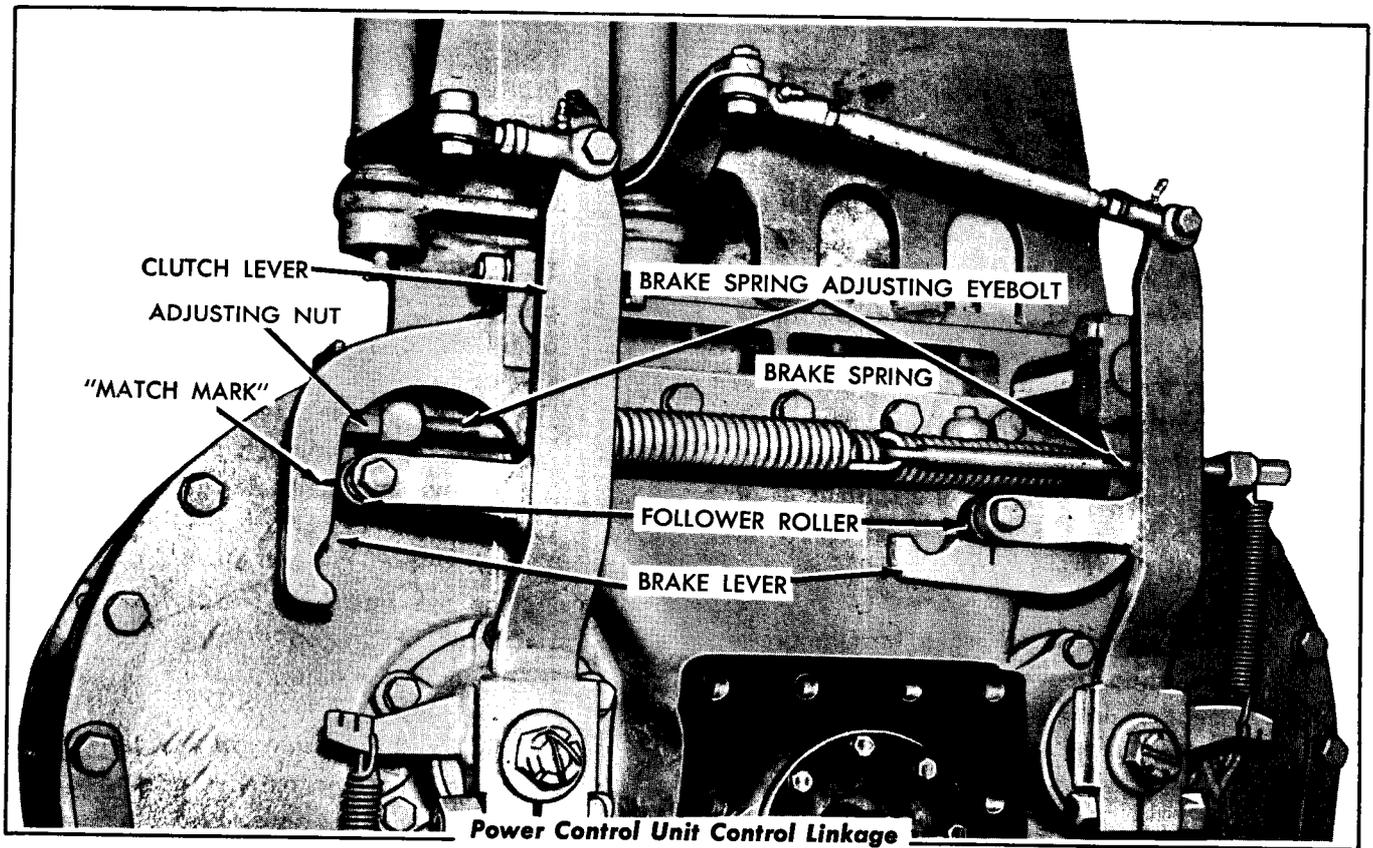
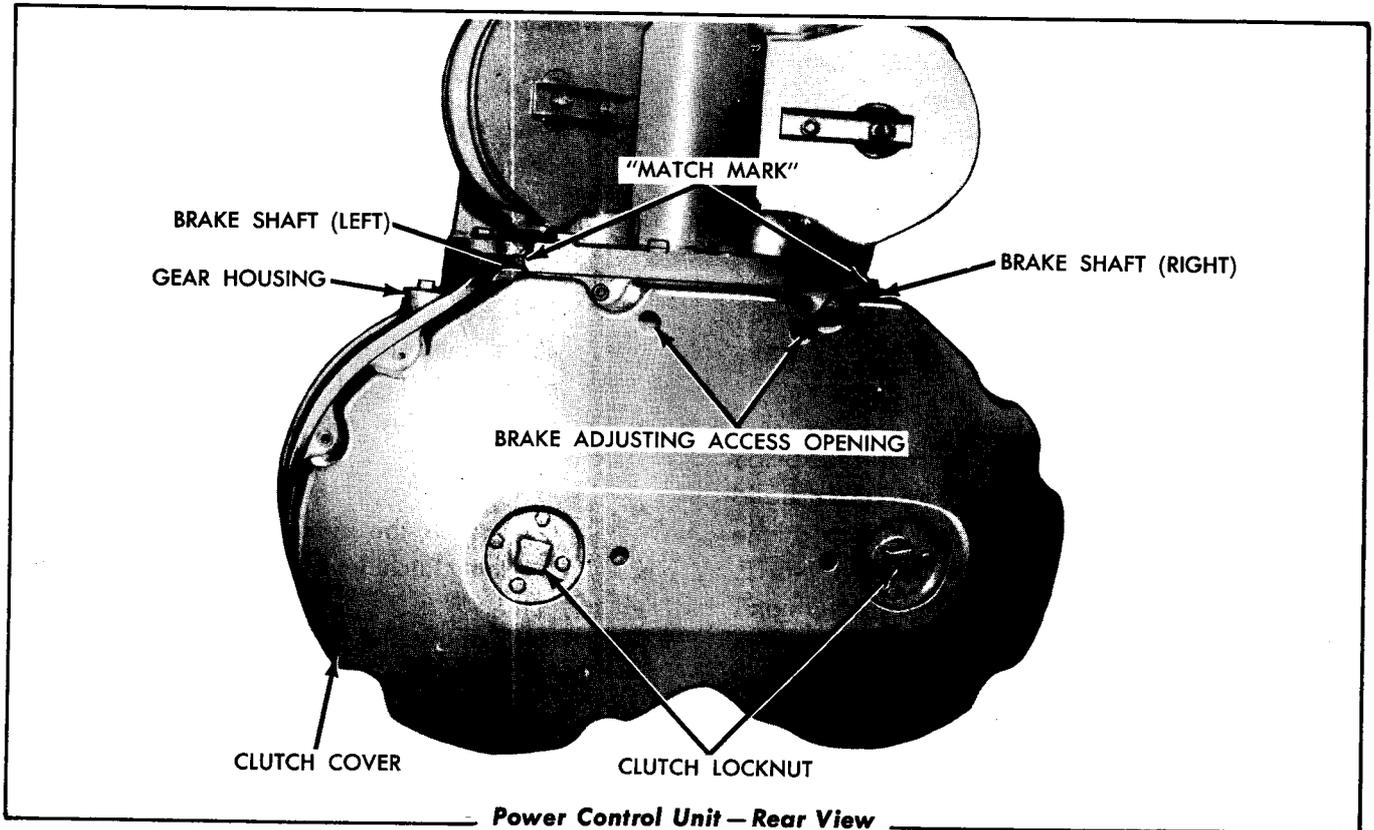

FIG. 5
FIG. 6
Each clutch and brake assembly of the unit is operated by its own control lever system. Moving the operating control lever toward the operator rotates the clutch control shaft in the direction to engage the clutch. Moving the operating control lever away from the operator actuates the brake release by means of a follower roller (Fig. 5) which contacts the cam surface on the edge of the brake lever. **CAUTION:** *When the operating control lever is in its extreme position (away from the operator) it is in its full release position and permits the cable drum to turn freely.*
A "match mark" (Fig. 5), stamped on each brake
lever at the factory, is provided for locating the proper neutral point of contact between the follower roller and the brake lever. A corresponding "match mark" (Fig. 6) is provided on the gear housing, just above the pointer of each brake shaft to which the brake band links are attached.
As the brake band lining wears, the follower roller contact point moves away from its "match mark" (Fig. 5), changing the free movement of the clutch engagement. **NOTE:** *Excessive free movement is noticeable through the operating control levers as extended travel; therefore, it is necessary to check the brake adjustment BEFORE adjusting the clutch.*
- a. To adjust the brake, insert the end of a screwdriver through the brake adjusting access opening (Fig. 6) in the upper rear of the clutch cover and engage it with the slotted flange on the brake adjusting sleeve (Fig. 7). With the access opening as a pry base, turn the adjusting sleeve as follows:
- b. When the pointer of the brake shaft is in line with its "match mark" (Fig. 6) on the gear housing, the follower rollers will also be in line with their corresponding "match mark" (Fig. 5) on the brake lever.
- d. The brake springs (Fig. 5) are adjusted at the factory for average service. For severe service, it may be necessary to increase the
tension by tightening the adjusting nuts (Fig. 5) located on the brake spring adjusting eye bolts. CAUTION: DO NOT TIGHTEN THE SPRINGS MORE THAN IS NECESSARY TO HOLD THE LOAD WITHOUT SLIPPING.
(3) When the proper position is obtained, install the cotter pin and tighten the clamp bolt securely.
(4) Check and readjust the brake if necessary.
c. Loosen (DO NOT REMOVE) the four cap-screws attaching the clutch lock nut (Fig. 6) to the clutch adjusting screw.